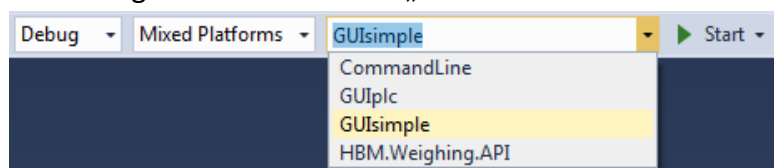

Figure 4.4: Drop down menu to choose between projects
- To execute the „GUIsimple“ application just choose the corresponding name in the drop down menu shown in Figure 4.4 and click on „Start“.